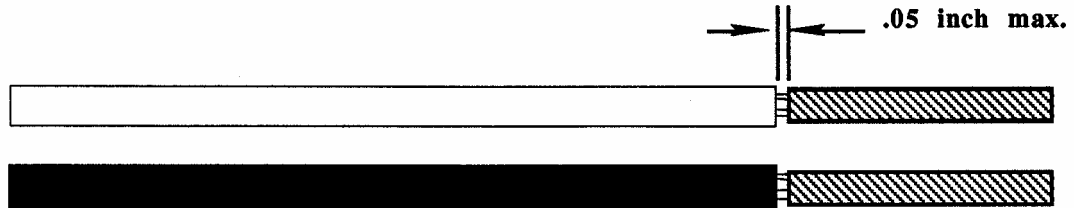

Figure 5-12. Pretinned Cable Conductors
12. Pretin stranded wire and unplated solid wire to within 0.05 inch of the insulation, using Sn63 solder and RMA flux per QQ-S-571 (Figure 5-12).